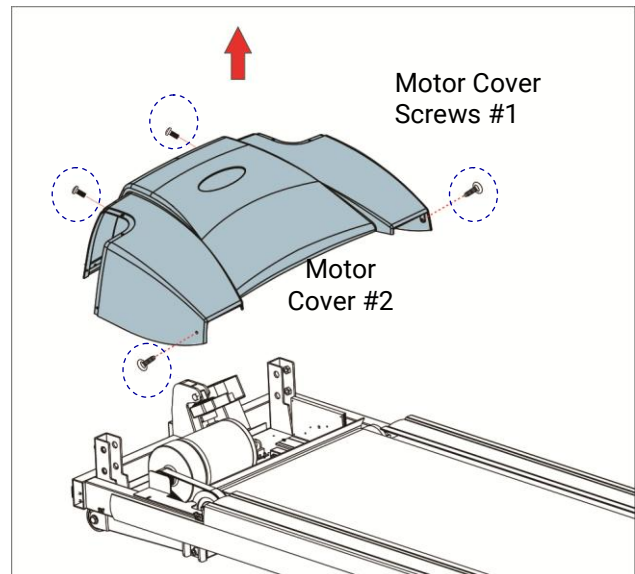

Fig 2.5-1
Unscrew the (4) **Motor Cover Screws #1** with the provided 5mm Allen Wrench (Fig 2.5-1). Put the **Motor Cover #2** aside. (Fig2.5-1)